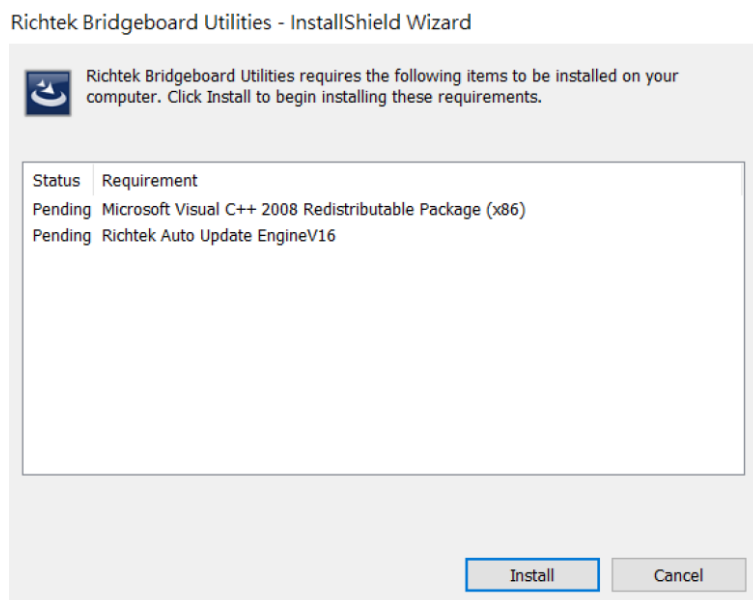

Figure 1. Driver Installation Step 1
Step 1: After downloading the Richtek Bridgeboard Utilities, click on "Richtek Bridgeboard Utilities", and then click the "Install" button to begin the installation process, as shown in Figure 1.